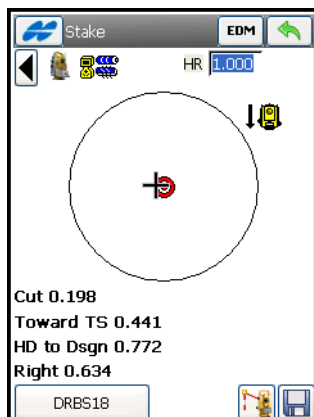

Figure 9-18. Stakeout Point & Direction – Stakeout
- For TS: sight the prism. In the **Stakeout** screen tap the **Cur Pos** button to check the position. Use the **EDM** button to select distance measurement mode: Coarse, Fine or Coarse Tracking. Once the position is close enough to the desired one, tap  to store it (Figure 9-18).